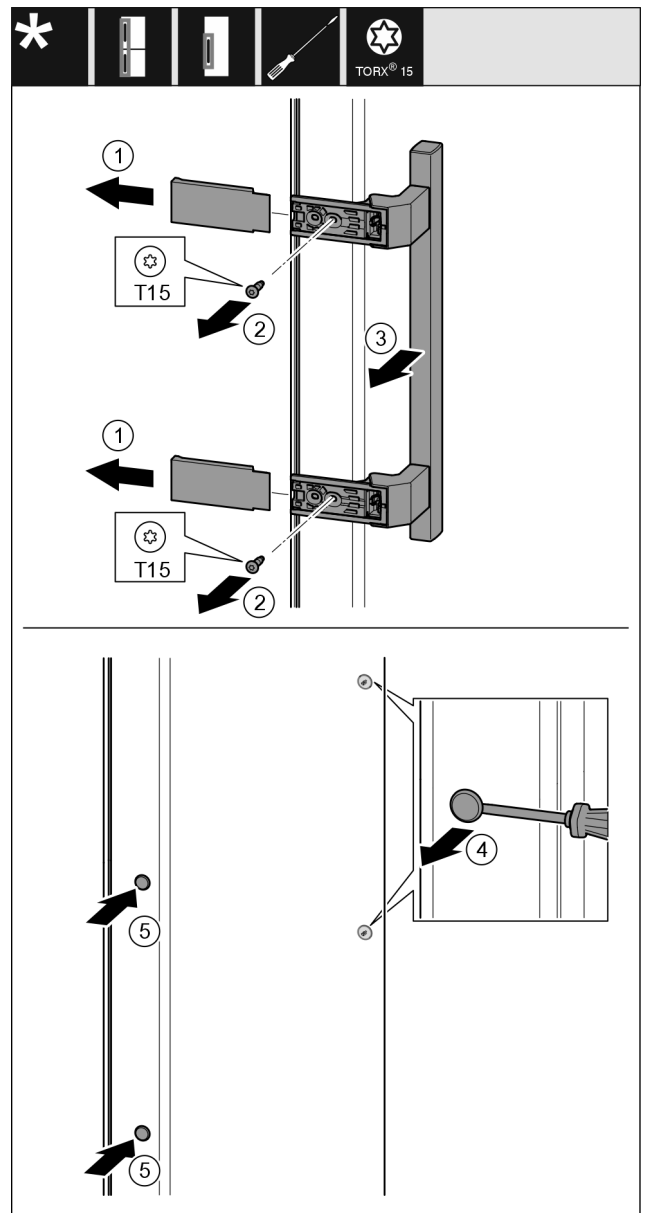

Fig. 40
- ▶ Remove the cover *Fig. 40 (1)*.
- ▶ Unscrew screws *Fig. 40 (2)* with screwdriver.
- ▶ Remove the handle *Fig. 40 (3)*.
- ▶ Use a slotted screwdriver to lift the side plug *Fig. 40 (4)* carefully and pull it out.
- ▶ Re-insert the plug *Fig. 40 (5)* on the other side.